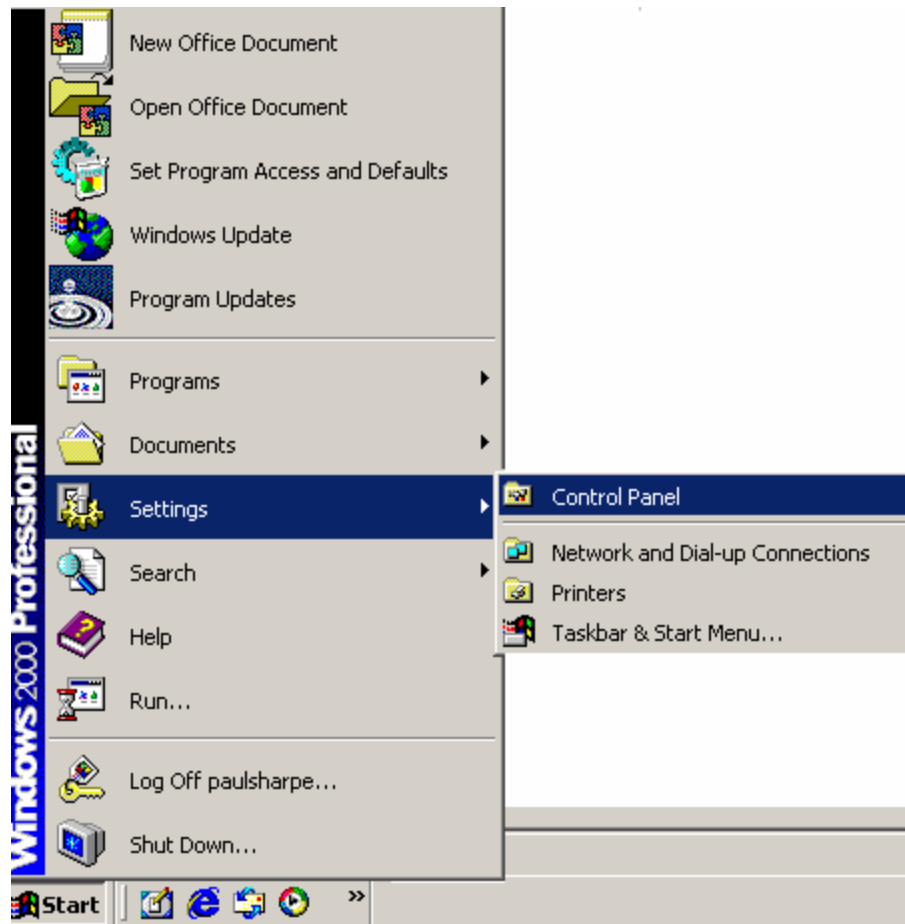

Figure 7-18: Access Windows Control Panel
Step 1: Open **Windows Control Panel** (Figure 7-18).